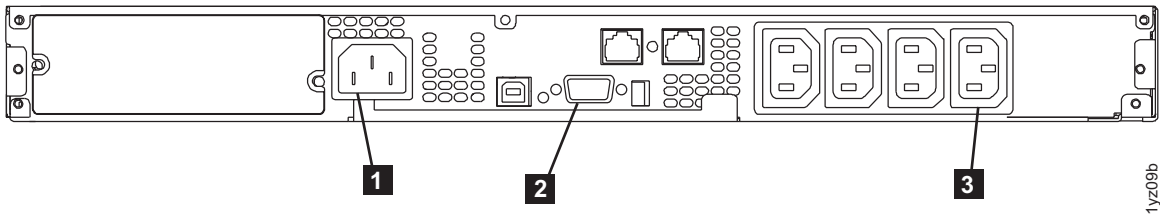

Figure 308. 2145 UPS-1U (rear view)
2. At the back of the 2145 UPS-1U, remove the power cable retainer before disconnecting the SAN Volume Controller power cable from load segment receptacle 2 (**3** in Figure 308 on page 324).
3. Disconnect the signal cable from the communication port (**2** in Figure 308 on page 324).
4. Disconnect the main power cable from the main power source (**1** in Figure 308).